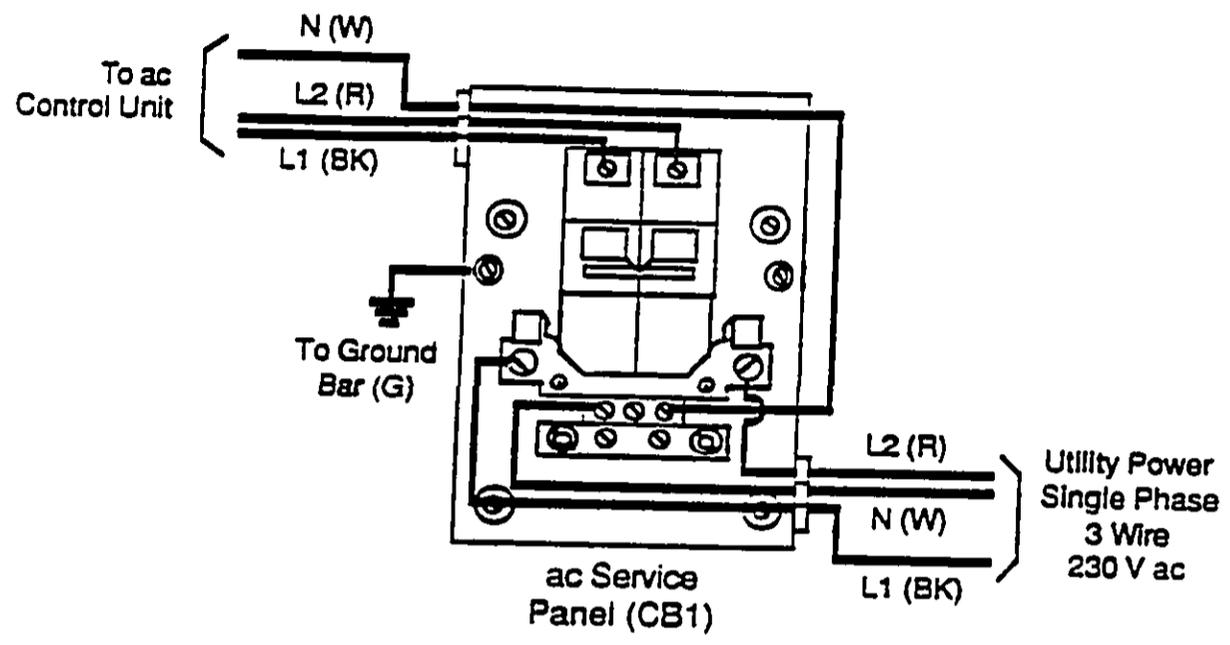

Fig. 2-13
- 3 Remove the cover from the ac service panel to expose the circuit breaker (see Fig. 2-13).